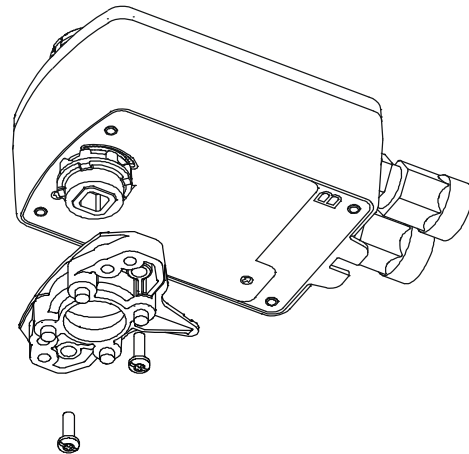

Figure 7: Installing the Linkage
4. Install linkage base on Side B using the two #8-32 x 0.625 in. long screws (Figure 7). The recommended torque is 29 to 33 lb-in. (3.3 to 3.7 N·m).